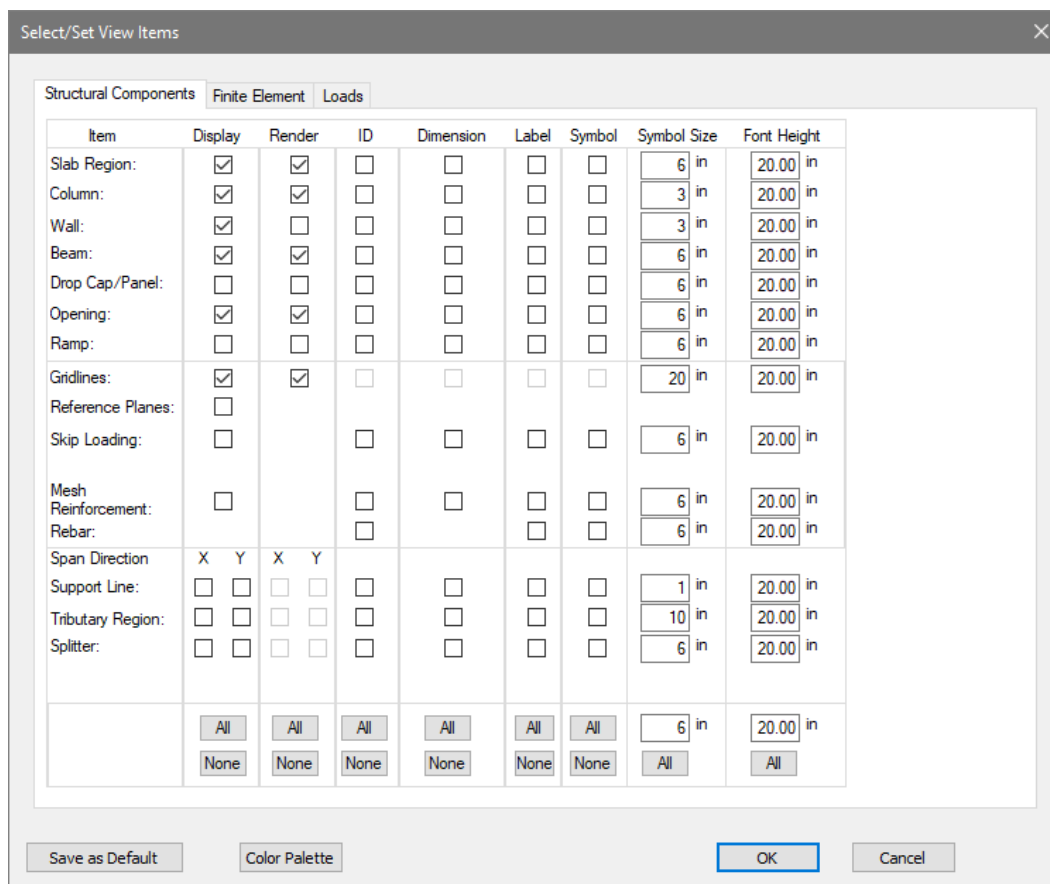

Figure 9-106
- On the *Structural Components* tab, make the selections as shown in **FIGURE 9-106**.